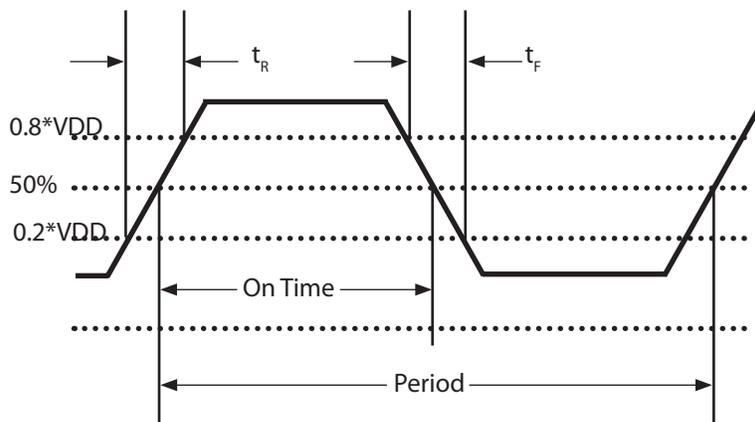

Figure 4. Output Waveform
- 4] Measured from 20% to 80% of a full output swing as shown in Figure 4.
4] Measured from 20% to 80% of a full output swing as shown in Figure 4.